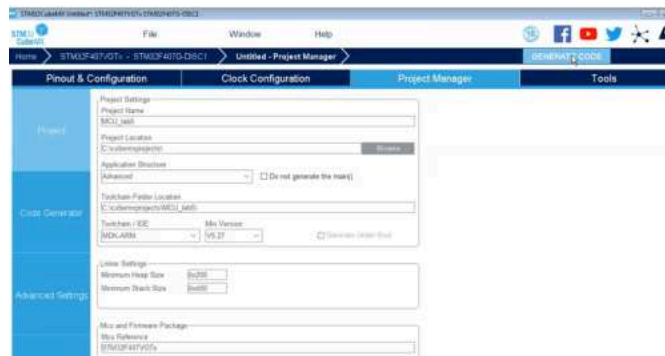

Figure 8
- There is no hardware connection between the USART. Use the cables to connect the USART peripherals to each other. (Connect PA2 with PA10; Connect PA3 with PA9 using cables). Now, you can set the project manager configurations as in Figure 8 and go to the Keil μ Vision by selecting Generate Code.